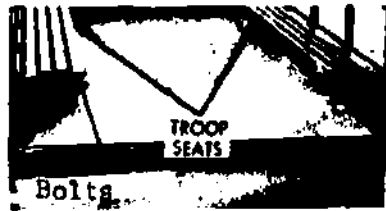

Fig 2-86. Troop seats require maintenance.
- Bows and troop seats (wooden) (fig 2-86) must be checked for weather cracks, missing/loose bolts or seat pins that hinge the seat to the side. If seat pins are missing and personnel are being carried, seats could break because of the unequal support. Troop seat legs must be checked for missing bolts and free movement. Otherwise when the seats are raised to load cargo, the leg will not lie against the side.